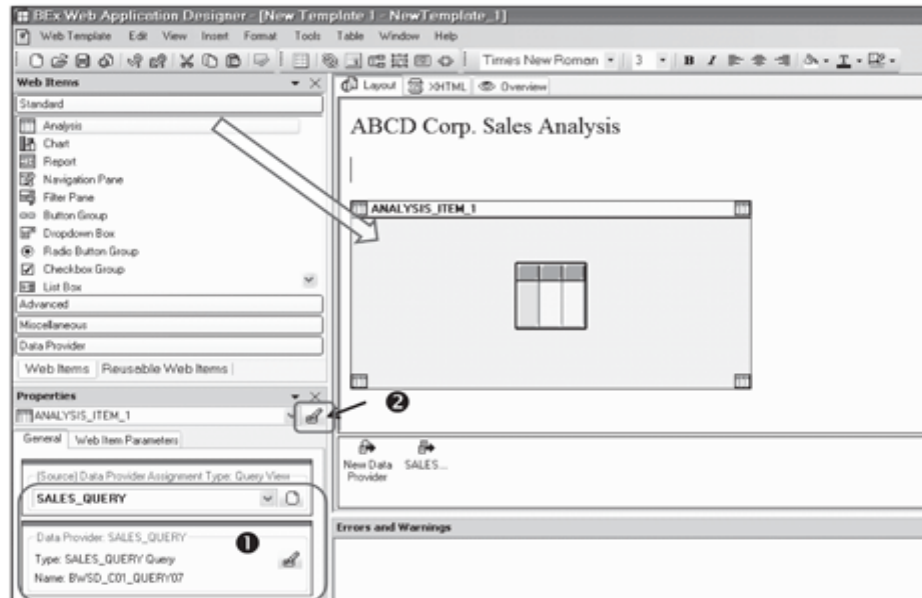

Figure 11.21 Analysis Web Item
This web item is based on a data provider, and the data provider is assigned to the web item on the General tab of the Properties pane (see ❶ of Figure 11.21). You can change the web item name by clicking on the button shown in ❷ of Figure 11.21.